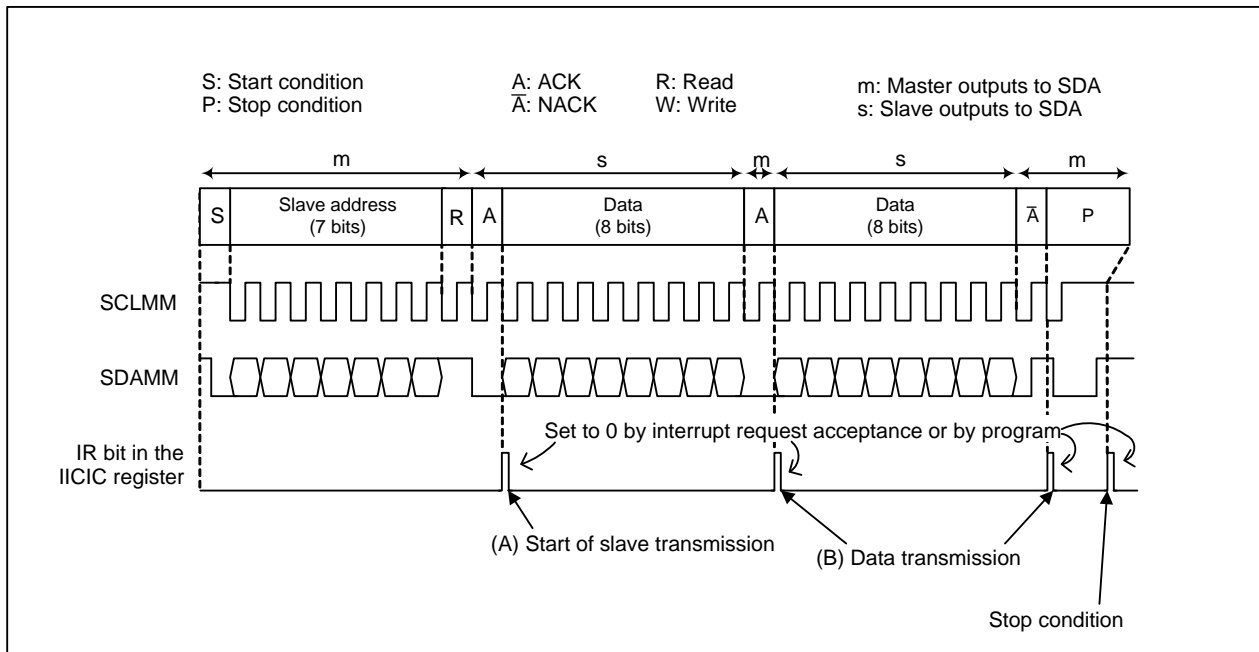

Figure 25.20 Example of Slave Transmission
- (1) Read the received data from the S00 register
- (2) Set the ACKBIT bit in the S20 register to 1 (no ACK presents) because the data is the last one.
- (3) Write dummy data to the S00 register.
The slave transmission is described in this section. The initial settings described in 25.3.10.1 "Initial Settings" are assumed to be completed. Figure 25.20 shows the example of slave transmission. The following programs (A) to (B) are executed at the (A) and (B) in Figure 25.20, respectively.